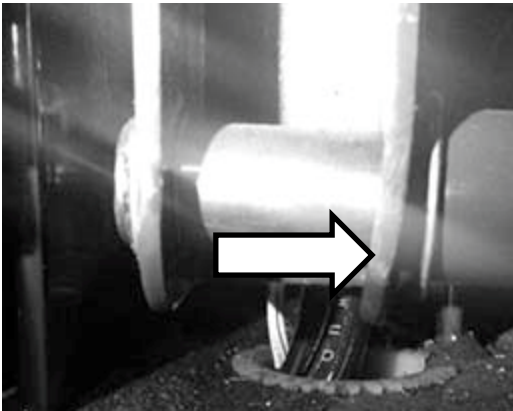

Figure 1A (Bent Knuckle Link Arm)
- 1. The Knuckle Link Arm is bent. Reference Figure 1A.